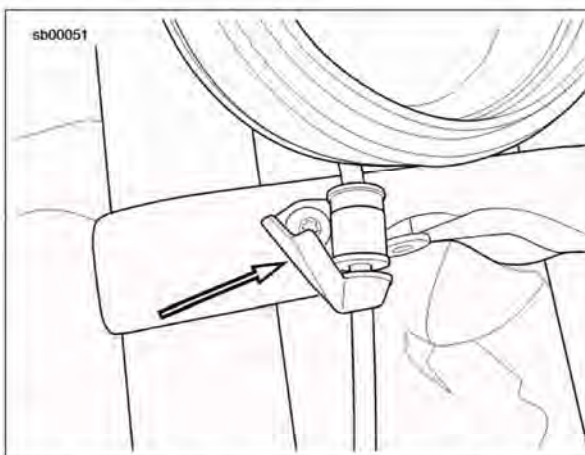

Figure 2. Front Brake Line Guide over P-clamp
4. See Figure 2. Install the front brake line guide over the top of the P-clamp and install onto the lower fork clamp with the fastener.